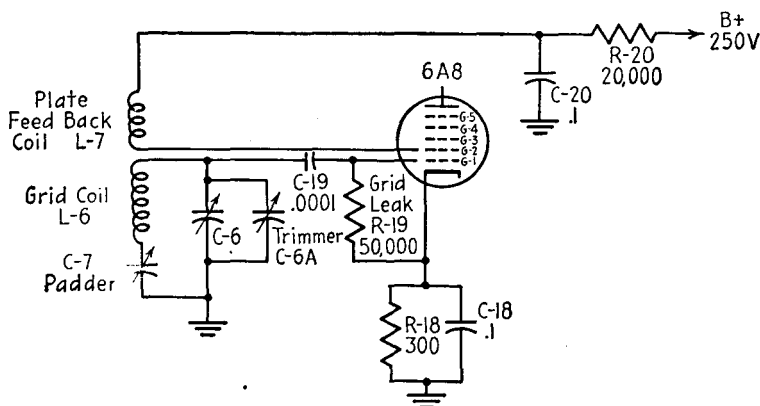

FIG. 14-2.—Oscillator circuit in the 6A8 pentagrid converter.
2. *It generates an unmodulated RF signal of its own at a frequency different from the received signal.* The cathode and grids *G-1* and *G-2* act as a triode oscillator. This can be more easily seen by re-drawing the oscillator stage of the converter, as shown in Fig. 14-2. Grid *G-1* acts as the oscillator grid while grid *G-2* acts as the oscillator plate or anode. Coil *L-6* and its associated condenser *C-6* are located in the oscillator grid circuit and make up the tuning section for the oscillator. Condenser *C-6* is the oscillator section of the gang tuning condenser. Feedback from the plate circuit is obtained by coupling between *L-6* and *L-7*, the latter coil being in the oscillator anode circuit. The feedback is in proper phase and of sufficient